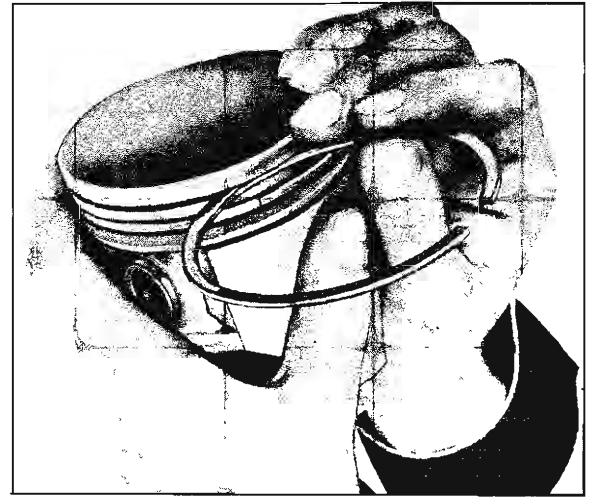

Fig. 58—Rolling Ring in Groove
8. Slip the outer surface of the compression ring into the piston ring groove and roll the ring entirely around the groove to make sure that the ring is free and does not bind in the groove at any point (fig. 58). If binding occurs, the cause should be determined and removed by carefully dressing with a fine cut file. However, if the binding is caused by a distorted ring, install a new ring.